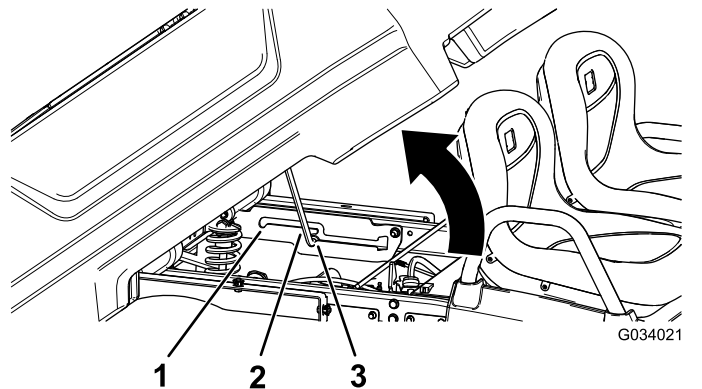

Figure 15
2. Pull the prop rod into the dump position detent slot to secure the bed for dumping (Figure 15).
2. Pull prop rod into the service position detent slot to secure the bed for maintenance (Figure 15).
2. Pull the prop rod out of the detent slot (Figure 15).